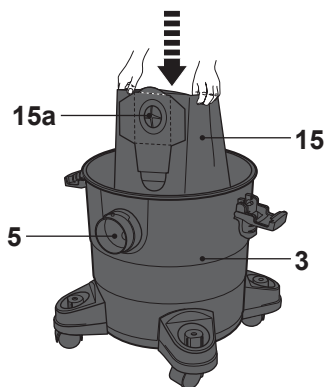

Fig. 6
- > Place the dust bag (15) into the tank (3). Ensure the dust bag opening (15a) is located on top.
- > Hold the side flaps of the dust bag opening (15a) and slide the dust bag opening (15a) onto the inner opening of the air inlet (5) (Fig. 6). Ensure the connection is properly sealed.